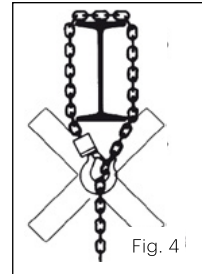

Fig. 4
- **Do not** use the load chain for lashing purposes (sling chain). (See Fig. 4).